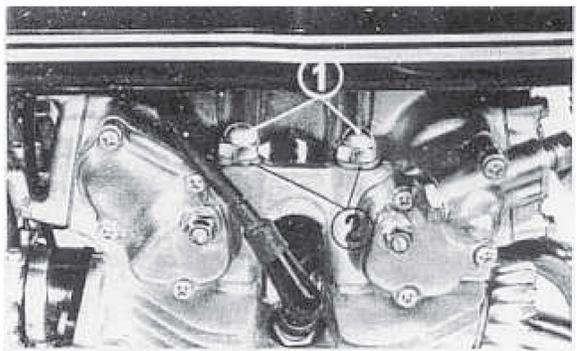

Fig. 4-54 (1) Cap nut
(2) Lock washer (4) Lock nut
6. After assembling, start the engine and allow it to run at the correct idle speed. Loosen the two cylinder head hold-down cap nuts in the right side, Fig. 4-54, and see if oil is seeping out from the gasketed surface at the copper washers. If so, it is a good indication that the pump is operating properly.